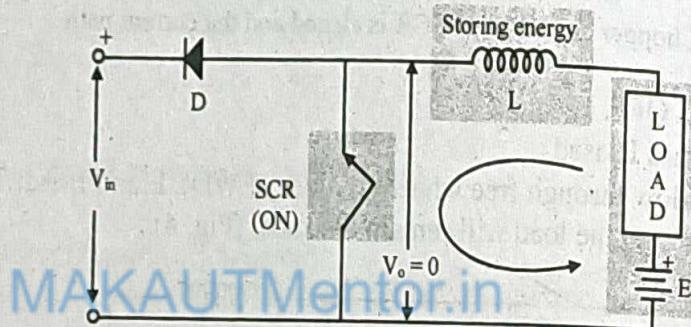

Fig: 7 Current path when SCR is triggered in type-B chopper
- The voltage source E drives the current through the inductor and SCR as shown in the figure 7.